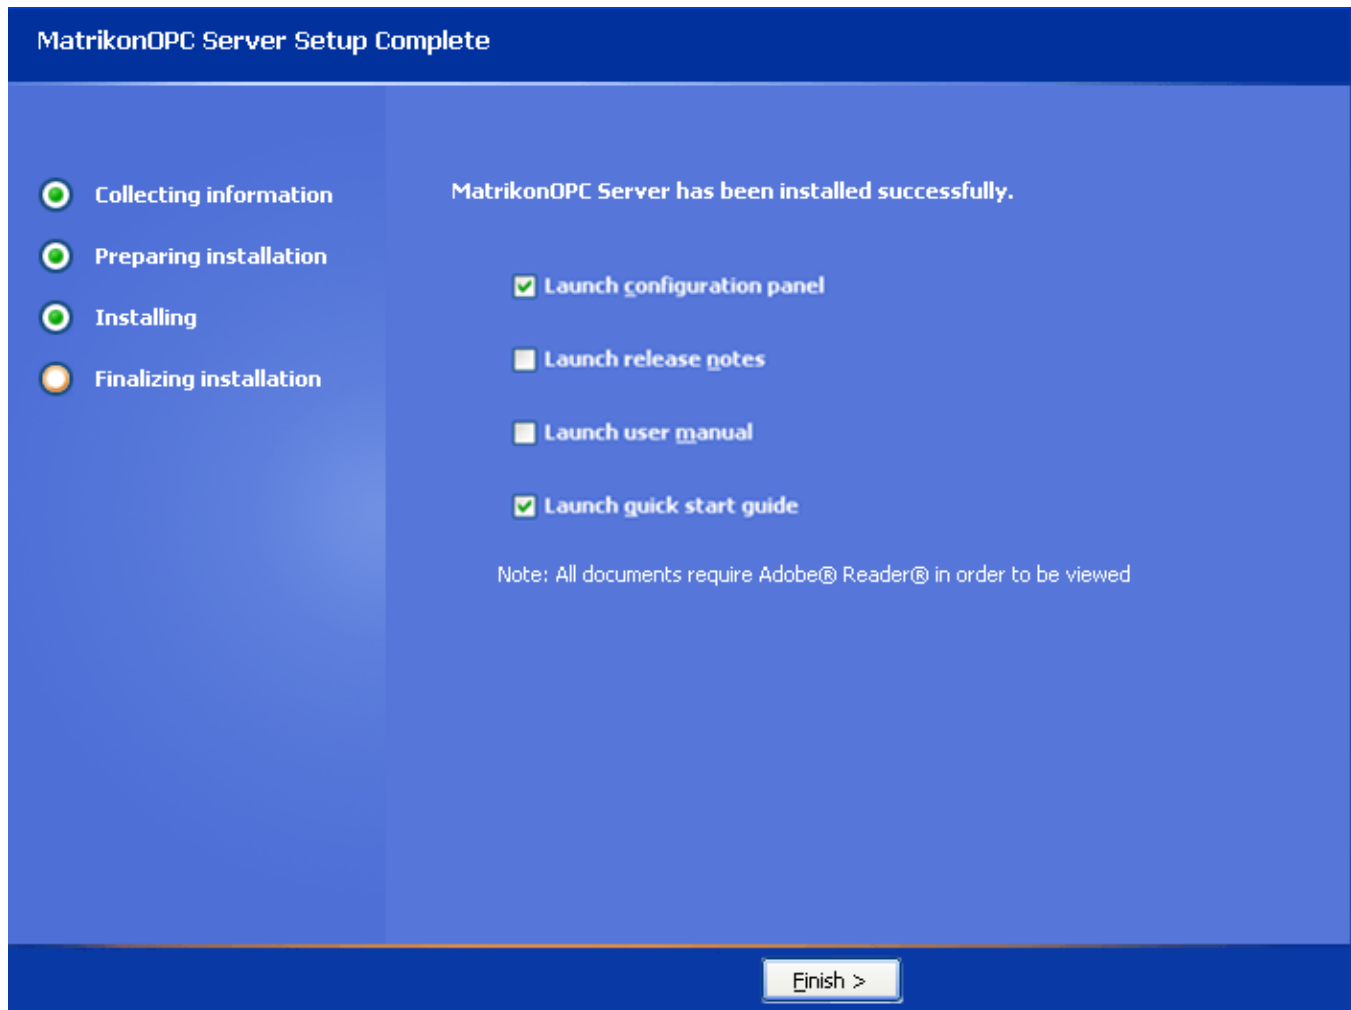

Figure 89 - MatrikonOPC Server Setup Complete Screen
21. When the installation has finished, the **MatrikonOPC Server for GDA Setup Complete** screen (Figure 89) appears stating that the MatrikonOPC server has been successfully installed.